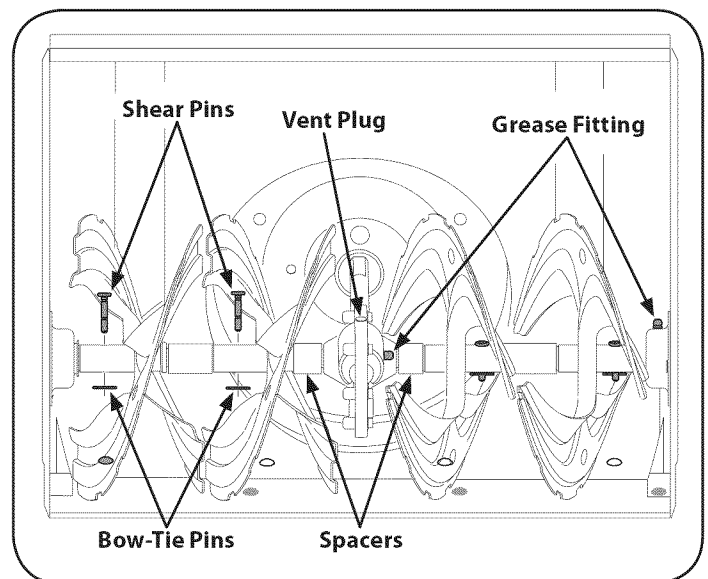

Figure 23
Grease fittings can also be found at each end of the auger shaft. Lubricate with a grease gun once a season. See Figure 23.
NOTE: To relieve pressure, remove the vent plug before lubricating the gear case. See Figure 23. Failure to do so could result in damage to the gear case seals.
2. Replace the pins if needed. Two replacement shear pins and cotter pins have been provided with the snow thrower. Spray an oil lubricant into shaft before inserting new pins and securing with new cotter pins. See Fig. 23.